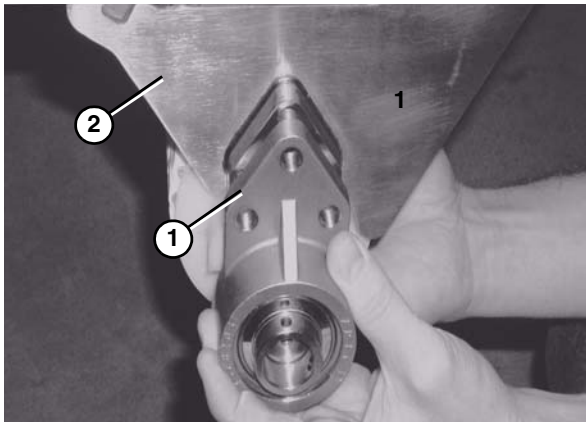

Figure 59
7. Disconnect the 3 hole flange bearing (Figure 59, item 1) from the nose bar drive weldment (Figure 59, item 2).